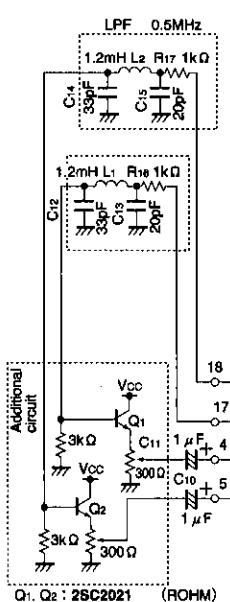

Fig. 11
- 4) Pin 4 (B-YIN) and pin 5 (R-YIN) have high impedance and are susceptible to the effects of noise and other external factors during pattern generation. For this reason, we recommend adding the circuit in Fig. 11 to lower the input impedance. Adding this circuit can also reduce carrier leakage.